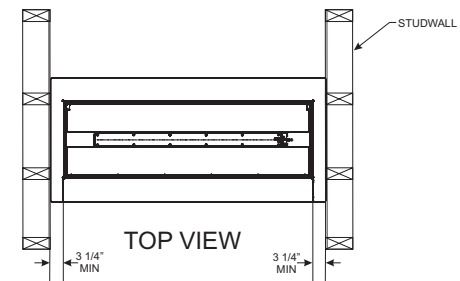

Figure 7
- Within a partial enclosure which includes an overhead cover and no more than two side walls. These side walls may be parallel, as in a breezeway. See **Figures 7 and 8**.